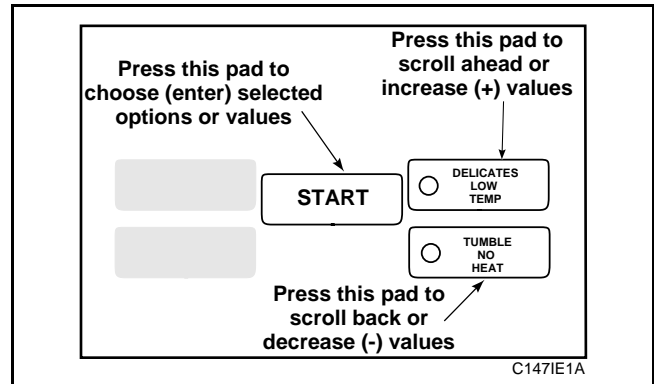

Figure 24
5. Press the LOW TEMP (+) pad or the NO HEAT (-) pad to increase or decrease the current number of coins displayed in the VFD to the desired number of coins, *Figure 24*.